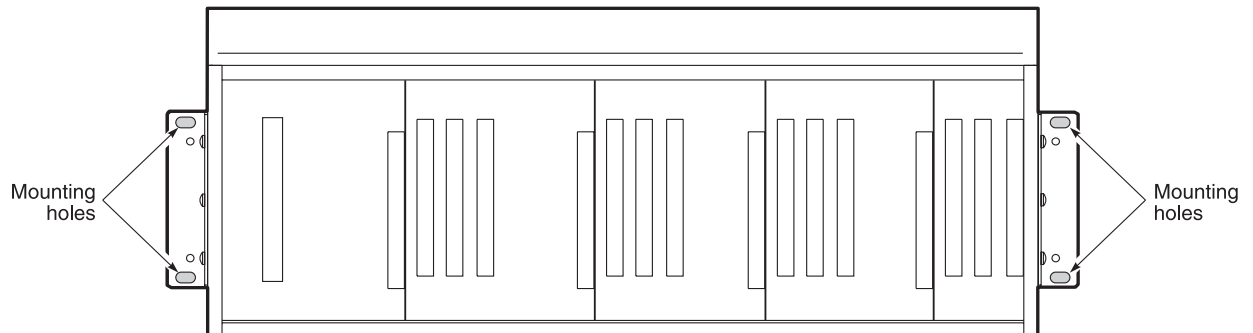

Figure 17. Mounting the FCS-719 COT Shelf
- 1 Align the shelf (Figure 17) universal mounting brackets with the four vertical mounting holes.